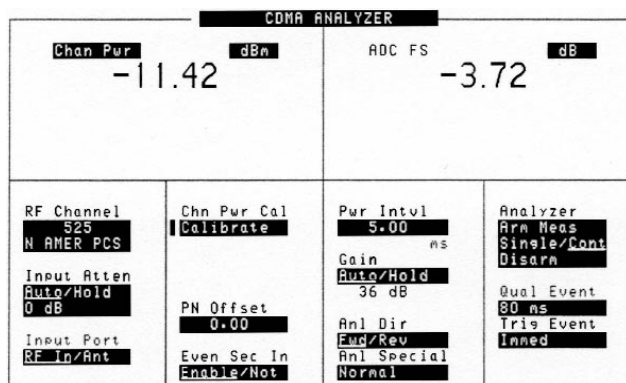

Figure 13. Channel Power Measurement Using the CDMA ANALYZER Screen on the E6380A Test Set
1. Press the **CDMA Analyzer** key on the front panel of the E6380A. The CDMA ANALYZER screen appears (see Figure 13).